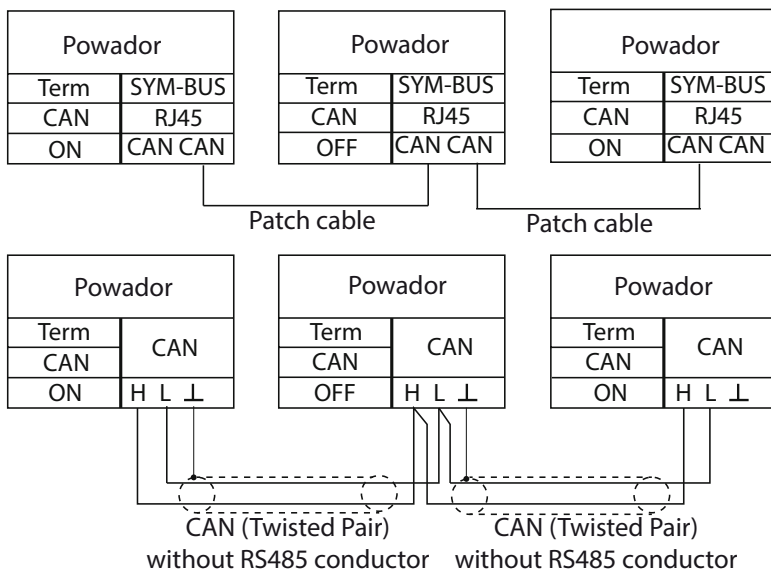

Figure 21: SYM bus wiring diagram in group of three
When a patch cable with an RJ45 plug is used, an RS485 connection, which is required for a proLOG connection, is established at the same time (Figure 21 on page 29).
- GND with GND (see Figure 21 on page 29)